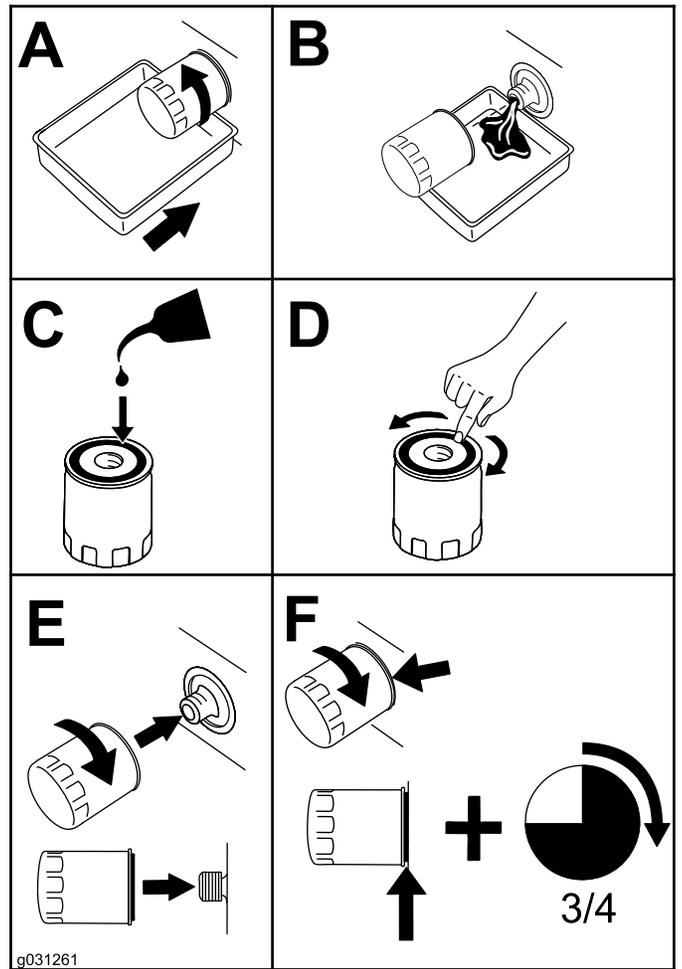

Figure 55
4. Change the engine-oil filter as shown in Figure 55.